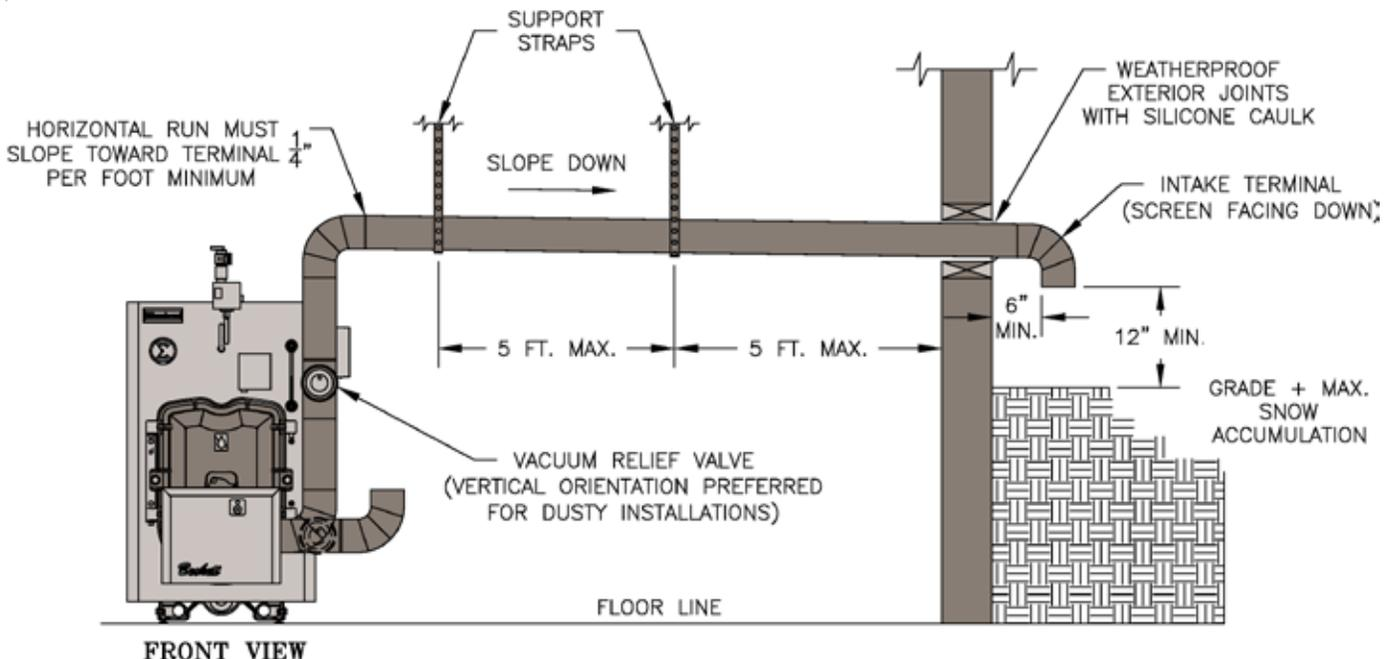

Figure 17: Optional Air Intake Piping Installation - Only Available with Beckett Burner
INSTALLATION - All air for combustion can be supplied directly to the burner from outdoors providing that the criteria for chimney, vent connector and minimum stack temperature outlined in this section can be maintained. **(ONLY AVAILABLE WITH BECKETT BURNER)**. See Figure 17.
5. Install remainder of air intake, securing each joint with at least three (3) sheet metal screws evenly spaced.
6. Install air intake terminal. See Figure 17.